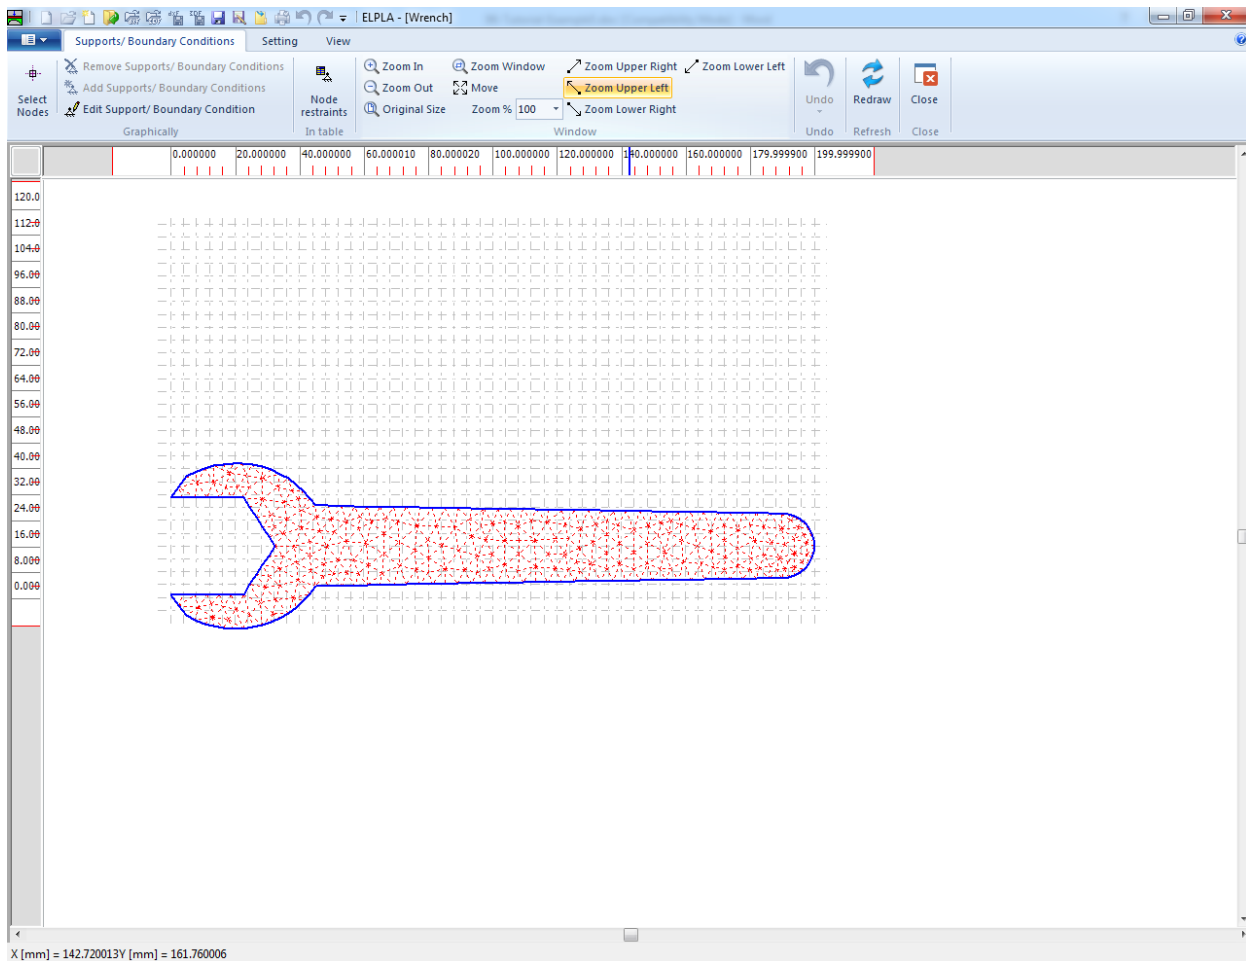

Figure 5.19 "Supports/ Boundary Conditions" Window
To define supports, choose "Supports/ Boundary Conditions" command from "Data" Tab. The following Window in Figure 5.19 appears.
- Choose "Select Nodes" command from "Graphically" menu in Figure 5.19. When "Select Nodes" command is chosen, the cursor will change from an arrow to a cross hair